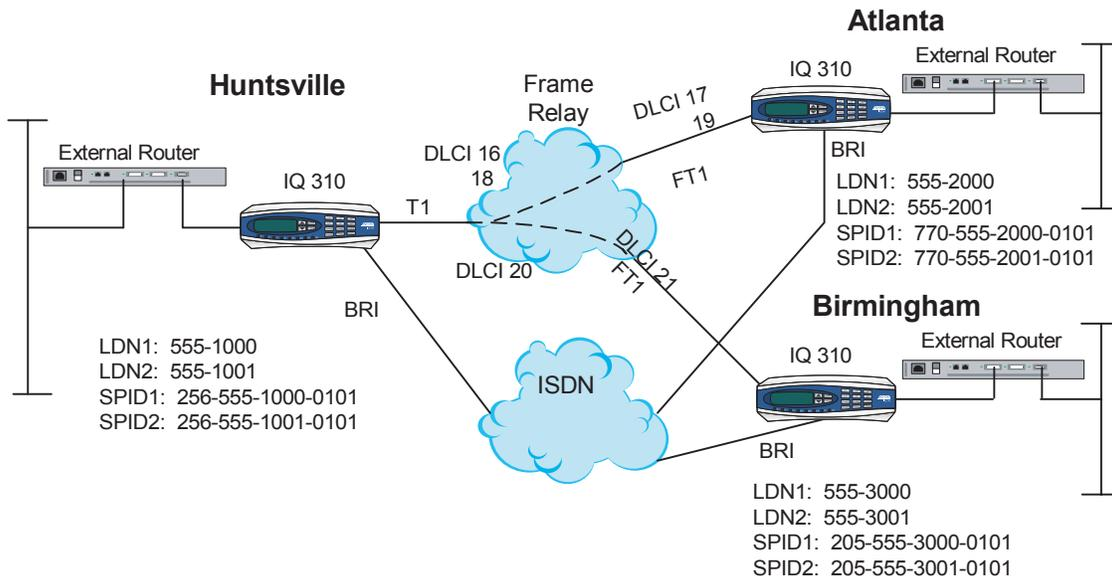

Figure 1. IQ 310 Frame Relay Dial Backup DBU On Inactive Group Example
Figure 1 on page 160 is a diagram of the Frame Relay example network used in this configuration guide. In this example, the host site is Huntsville. Two Permanent Virtual Circuits (PVCs) originate from Huntsville. One circuit is connected to Atlanta and the other to Birmingham. There are two DLCIs used by the host site to communicate with the Atlanta remote site (DLCIs 16 and 18). These correspond to DLCIs 17 and 19 at the Atlanta site. The host site uses only one DLCI (DLCI 20) to communicate with Birmingham, which has a corresponding DLCI of 21. Please remember that DLCIs have local significance and are assigned by the Telephone Company (TELCO) when the Frame Relay network is built; therefore the DLCIs for your Frame Relay network will most likely be different from the ones used in this example.
The remaining parameters described in Figure 1 provide a description of the BRI lines that terminate into the three IQ 310s. The Telephone Company will provide you with the Local Directory Numbers (LDNs) and Service Profile Identifiers (SPIDs) for each of your BRI lines. In addition, you must know which type of Central Office (CO) switch is providing the ISDN service.